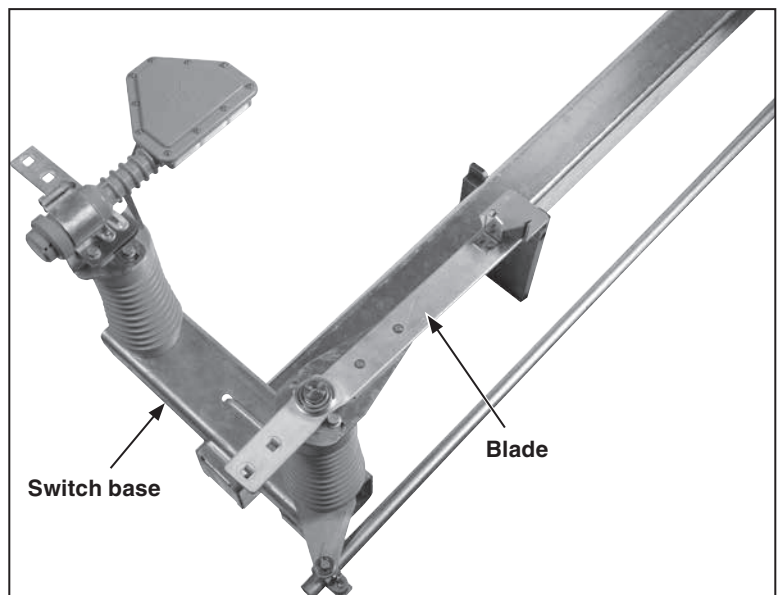

Figure 24. Blade at 90 degrees from switch base position.
- b. With the operating handle as far as it will go in the opening direction, the switch blades are 90 degrees from the closed position. See Figure 24.